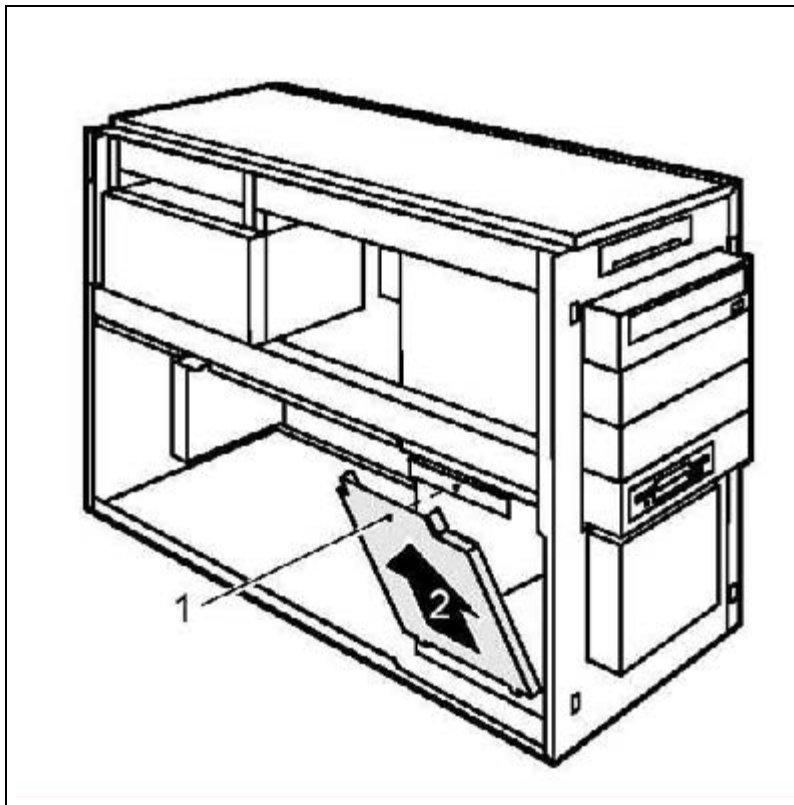

Fig. 47: Replacing a PCI board_1
3. Loosen the screw (1/Fig. 47 / p. 79).
4. Fold out the cover (2/Fig. 47 / p. 79).